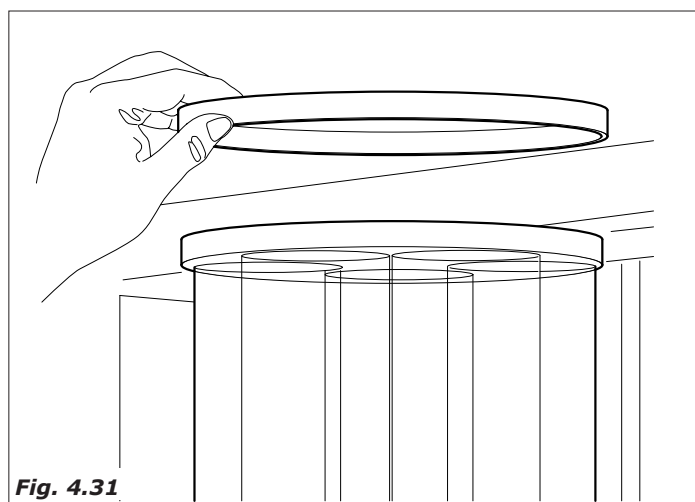

Fig. 4.31
- Put the cup turret's lid back on and snap in the spring band (Fig. 4.31).